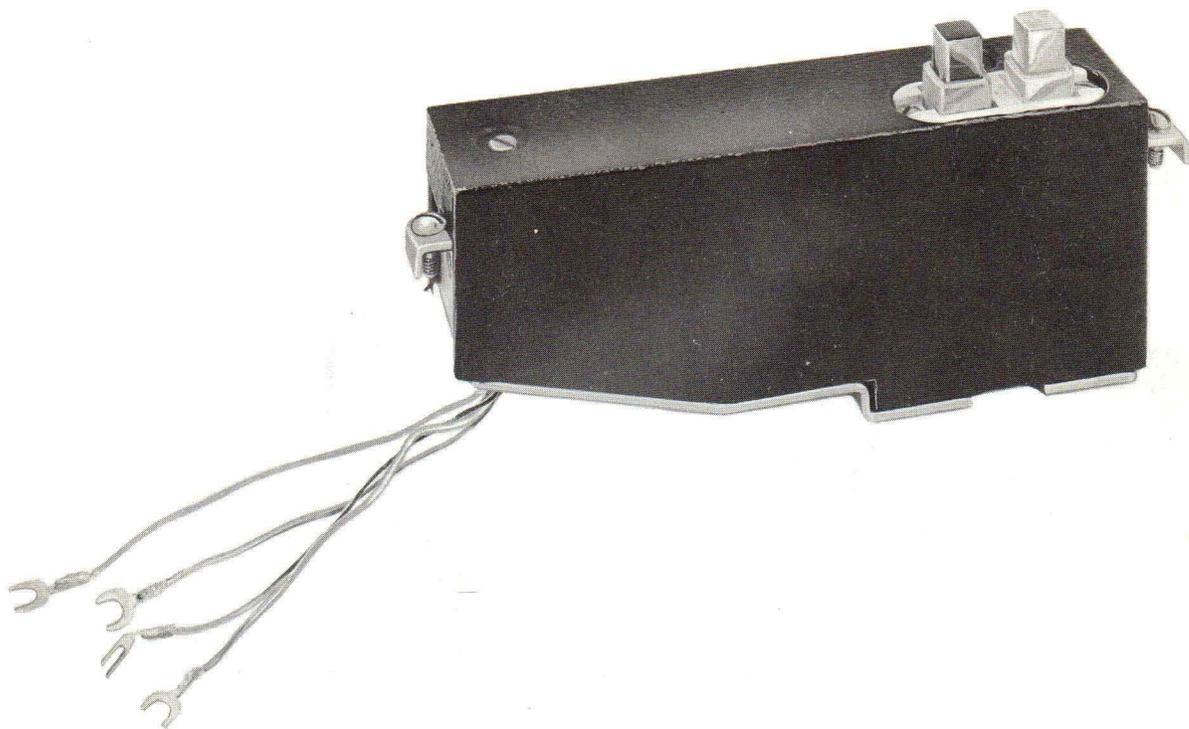

Fig. 1 - 621A Key
3.01 The 621A key module (Fig. 1) has two nonilluminated pushbuttons, RELEASE and FLASH. The RELEASE button is clear plastic and nonlocking. It physically actuates the pivot bar in a 400-type mounting to release any locked button in a field of associated 598- or 599-type keys. The nonlocking FLASH button is amber colored plastic. It has make before break contacts which shunt the receiver circuit and open line for operator recall.